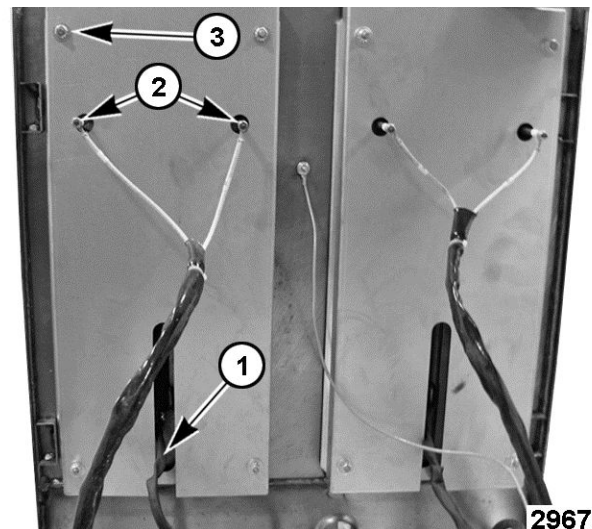

Fig. 25
2. Remove thermostat bulb from the angle iron weldment (1, Fig. 25) on the bottom of griddle plate.
3. Disconnect element wiring from heating element terminals (2, Fig. 25).
4. Remove mounting nuts (3, Fig. 25) securing griddle element cover to griddle plate.